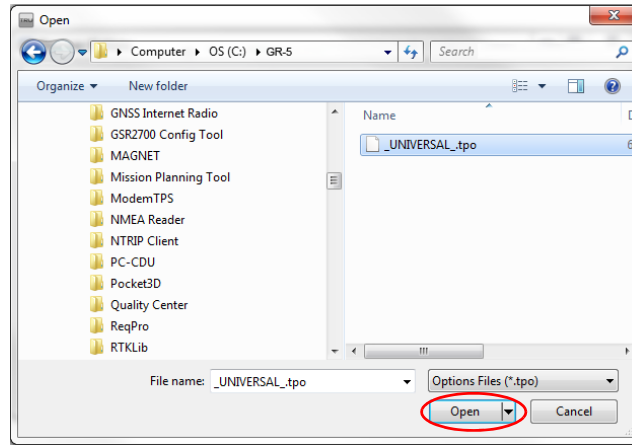

Figure 23: Load OAF
3. Navigate to the location of the new Option Authorization File (Figure 23).
4. Select the appropriate file, and click **Open** (Figure 23).